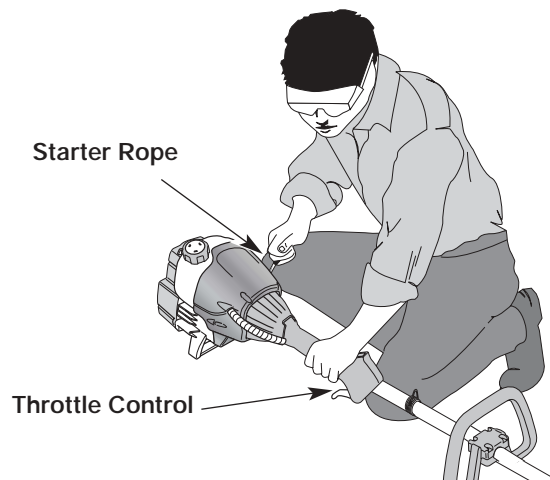

Figure 8
WARNING: Avoid accidental starting. Make sure you are in the starting position when pulling the starter rope. See Figure 8. To avoid serious injury, the operator and unit must be in a stable position while starting.
5. With the unit in the starting position, **DO NOT SQUEEZE THE THROTTLE CONTROL**. See Figure 8. Pull the starter rope 5 times briskly, making sure the EZ-Start™ lever is pushed to the left. If the engine starts to run before the fifth pull, proceed to step 6. If the engine does not start, go back to step 3.
1. Release your hand from the throttle control. See Figure 8. Allow the engine to cool down by idling.